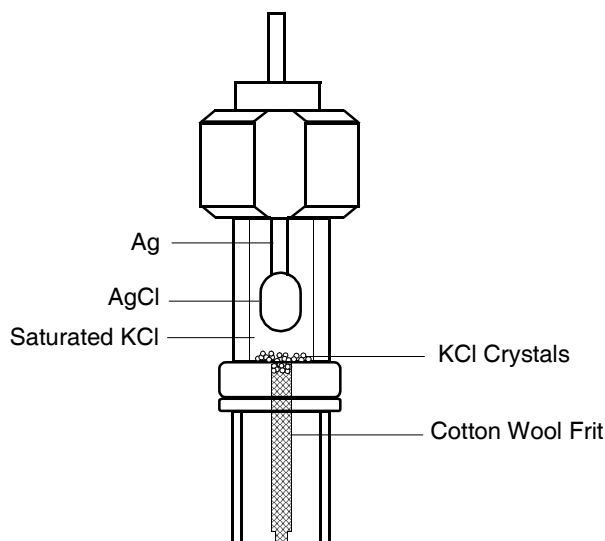

Figure 4-6 Inspecting a Reference Electrode
1. Check the electrode regularly for air bubbles (Figure 4-6). If an air bubble is trapped in the salt bridge or in the cotton plug that separates the salt bridge and the mobile phase, the flow cell becomes extremely sensitive to flow fluctuations and vibrations. This is caused by the high compressibility of the trapped air.